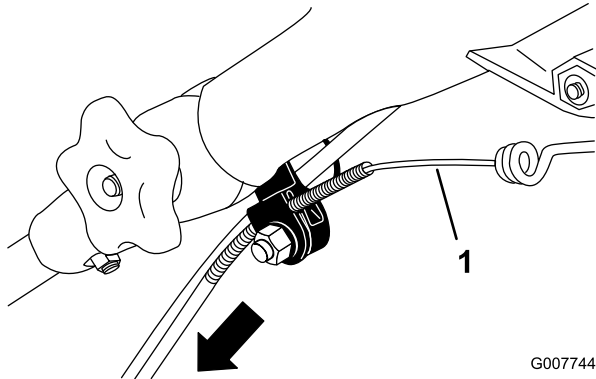

Figure 50
- Pull the cable jacket downward until you remove the slack in the exposed cable (Figure 50).